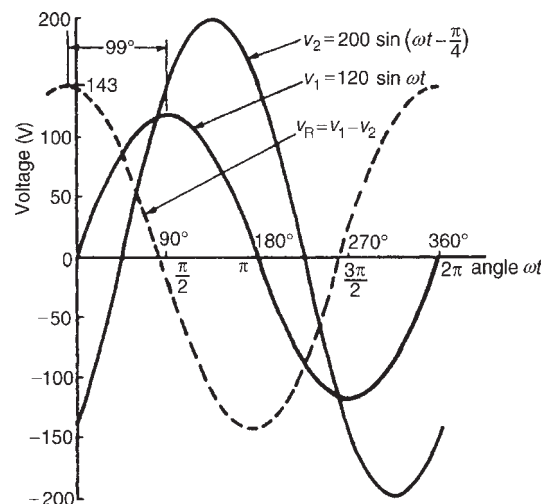

Figure 14.13
- (a) $v_1 = 120 \sin \omega t$ and $v_2 = 200 \sin(\omega t - \pi/4)$ are shown plotted in Fig. 14.13. Care must be taken when subtracting values of ordinates especially when at least one of the ordinates is negative. For example
The resultant waveform, $v_R = v_1 - v_2$, is shown by the broken line in Fig. 14.13. The maximum value